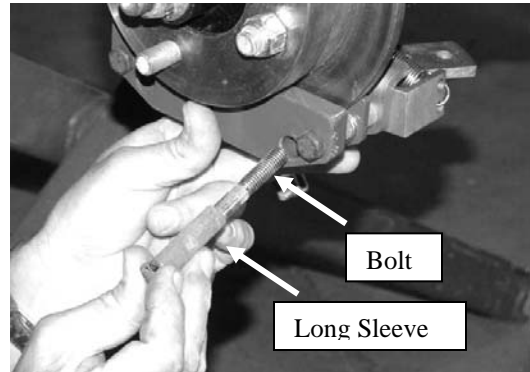

Fig. R8 - Front view
9. Install caliper onto rotor. Orient brake so that mounting holes line up with the brake-mounting bracket. Brake lever actuation lever and spring are to be oriented toward back of vehicle. Cable bracket should be toward the front of vehicle and spring toward the rear. If not, you may have the left brake on the right side. (See Fig R8)